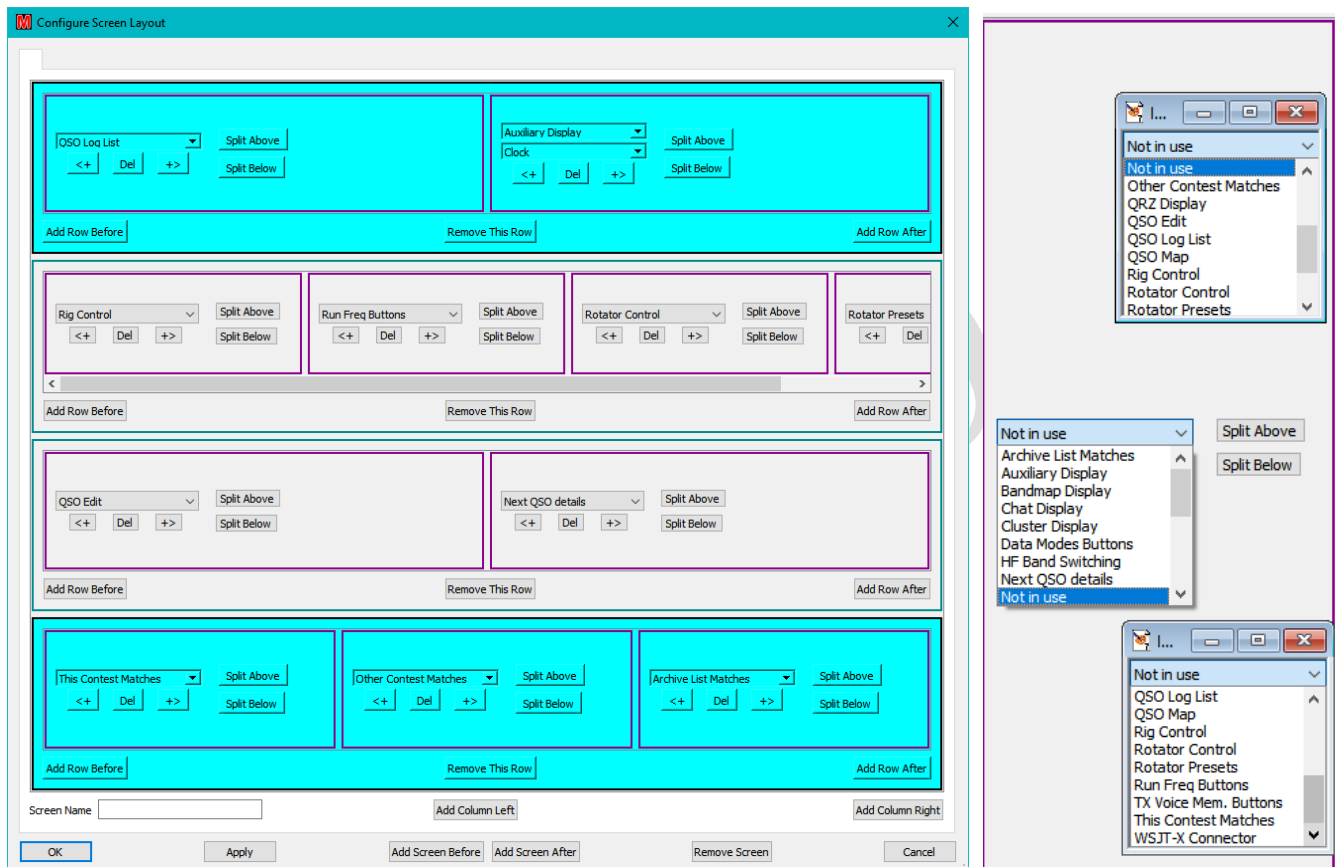

Figure 58 – Add column to left/right
- “**Add Column Left/Right**” is typically used for the Bandmap Display⁵⁷ (Figure 58 right), although other panels may be configured. The extent of the column is marked using the CTRL key (Figure 58 left) and clicking to select the top and bottom rows, then clicking the requisite button⁵⁸.